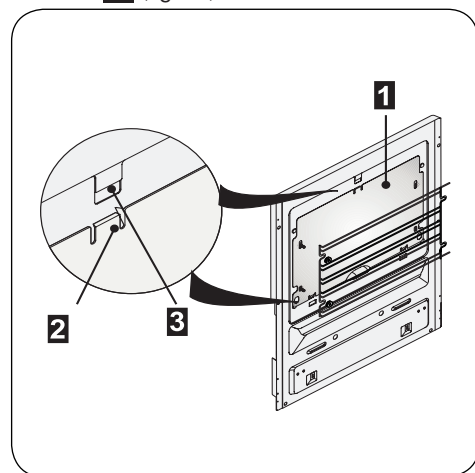

Fig. 10
- Remove both side panels **1** (fig. 10).
Important! Position both side panels **1** by taking the locking pin **2** out of the hole **3** (fig. 10).